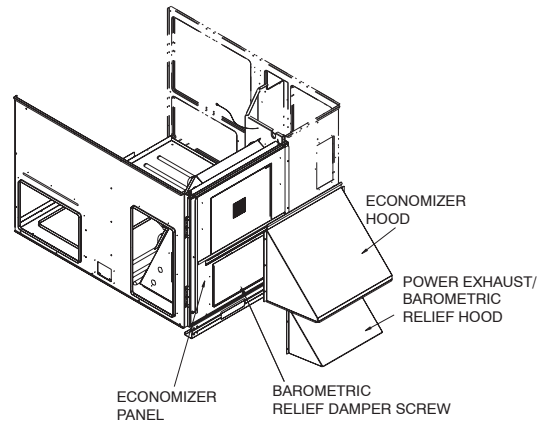

Fig. 15 - Hood Installation
3. Remove the screw holding the barometric relief damper to the panel. Damper should be free to swing open during operation. (See Fig. 15.)
4. Hang the barometric relief/power exhaust hood on the mounting flange on the economizer panel. Secure hood to panel with screws saved from Step 2. (See Fig. 15 and 16.)
5. Align hole in flange of economizer panel with left edge of hood. Hang economizer hood on the top flange of the economizer panel by rotating hood until top flange of the economizer hood engages the bent flange on the economizer panel. Rotate hood until hood is flush with the economizer panel. Hood will support itself from flange. Align holes in hood with holes in panel and secure hood to panel with screws saved from Step 2. (See Fig. 15 and 17.)